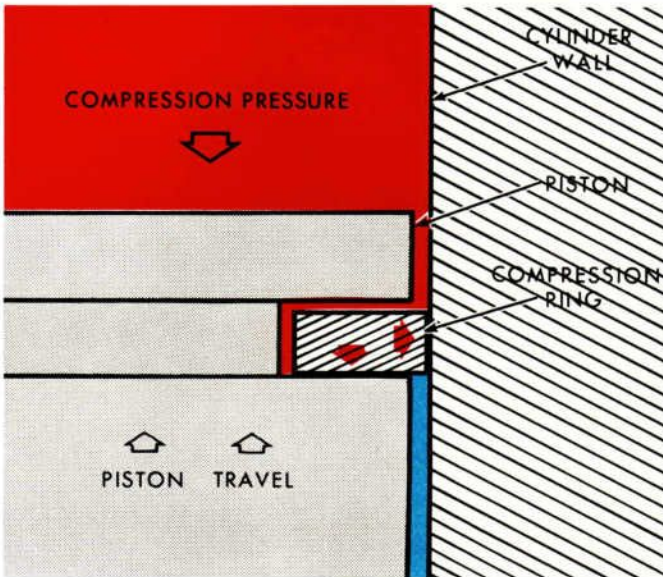

**FIGURE 92. OIL CONTROL FUNCTION OF COMPRESSION RING DURING INTAKE STROKE**
2. On the **INTAKE STROKE**, the pressure differential (partial vacuum in the combustion chamber and atmospheric pressure in the crankcase) tends to force oil upward, past the rings into the combustion chamber (See Figure 92).